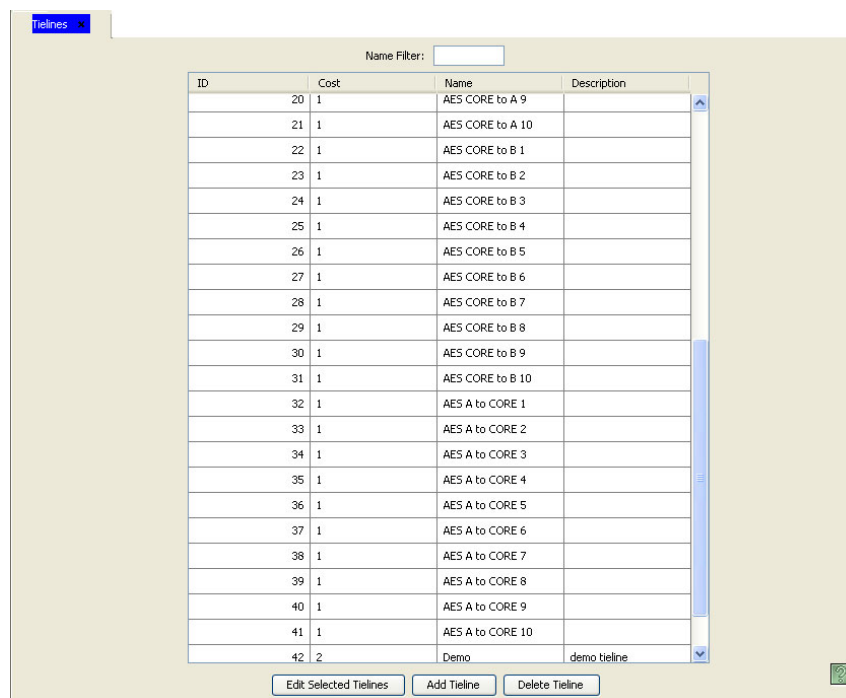

Figure 16-12. Tieline Page
- 2 From the Navigation area, select the 'Configuration' pane and then 'Tielines'. The 'Tielines' page displays, as shown in Figure 16-12. All tielines currently defined in the system are listed. To narrow the list, enter the first characters of the tieline's name in the 'Name Filter' field. The list is automatically reduced to display only tielines matching that character string.